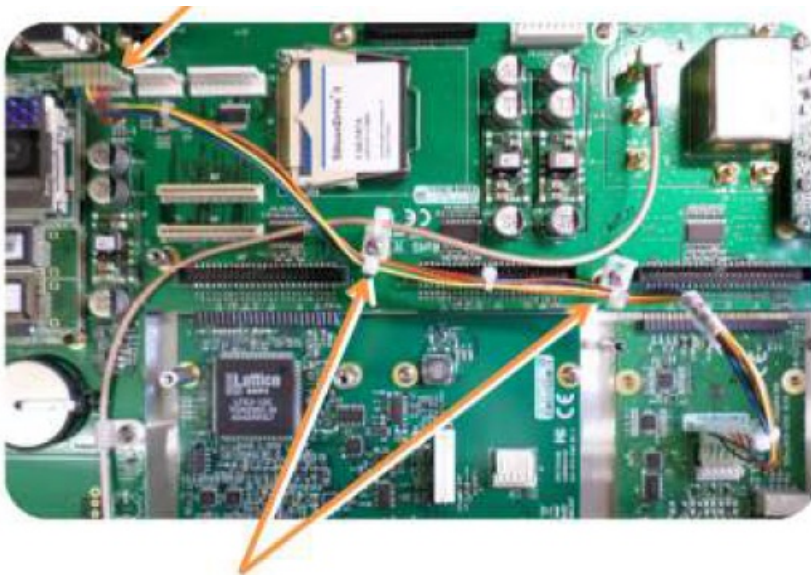

Figure 12: Cable routing
- Using the supplied cable ties, secure the cable, part number 8195-0000-5000, from the option card to the white nylon cable tie holders fastened to the mainboard (see Figure 12).